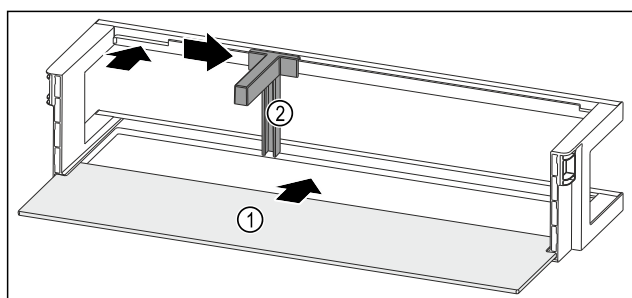

Fig. 206 Door rack with shelf
- Push the shelf Fig. 206 (1) into the side recesses.
- Insert the bottle holder Fig. 206 (2) in the recess.
- Push the bottle holder Fig. 206 (2) to the desired position to the side.